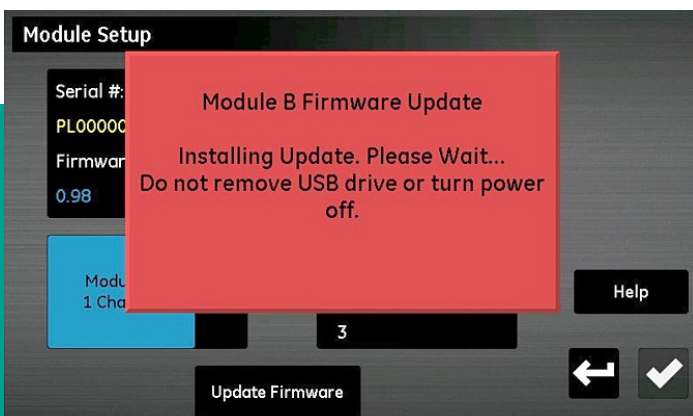

Figure 98: Installing the firmware
8. After the update is complete (see *figure 98* below), the meter prompts you to exit. Tap the exit button.